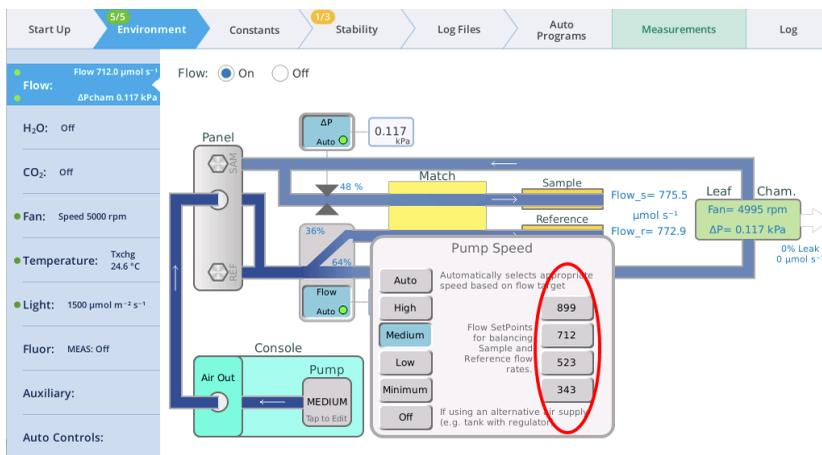
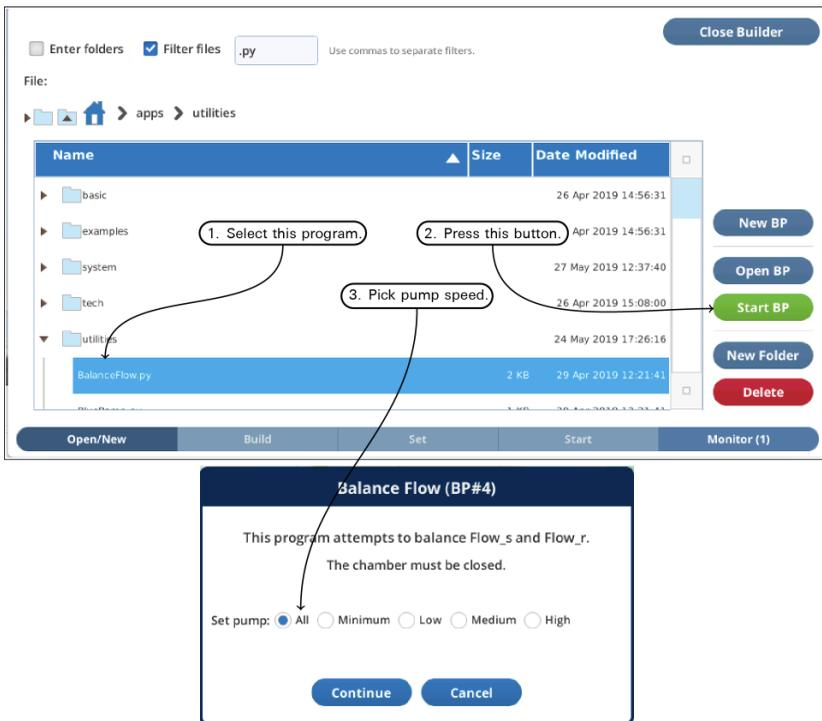

Figure 1-51. *Balanced flow.*
Figure 1-52. The BalanceFlow utility program can be run manually to determine (and automatically update) balanced flow set points.
Having sample and reference flow rates balanced can be advantageous for eliminating potential errors, and it is now easier to achieve. For every pump speed, there is one flow rate that will match sample and reference flows (to within 5 mol s^{-1}). To quickly get to that flow rate, simply tap the **Pump** button on the **Flow** control page to bring up the **Pump Speed** dialog (Figure 1-51 below). Tap one of the four flow rate possibilities presented on the right side.
- The BP `/home/utility/apps/utilities/Balance_Flow.py` has an opening dialog that lets you pick what pump speed to use (*Figure 1-52* below), then balances the flow for that speed. (Cycling through all four pump speeds is also an option.) Running this program also updates the balanced flow setpoints shown in *Figure 1-51* on the previous page.